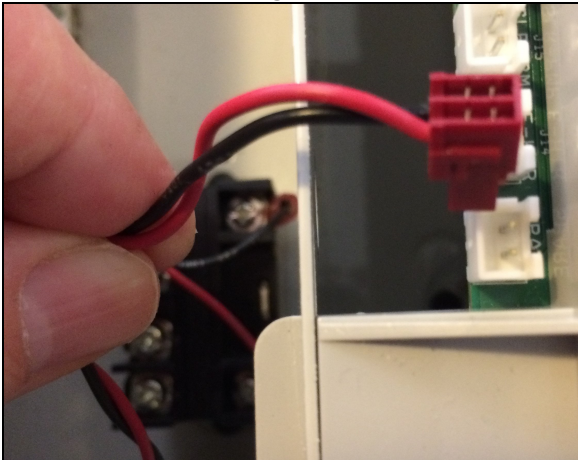

Figure 1
1. Turn off power to heat pump and external control panel at breaker panel. Wait two (2) minutes for power to discharge from capacitors.
3. Leave relays in their existing enclosure. Disconnect coil wires leading from relay to control board. See Figure 1.